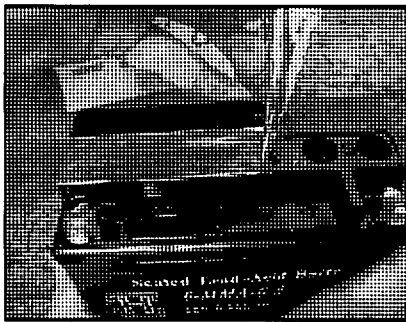

FIGURE 20
- Place battery on level surface. Remove sealing tape from top. (see figure 20)